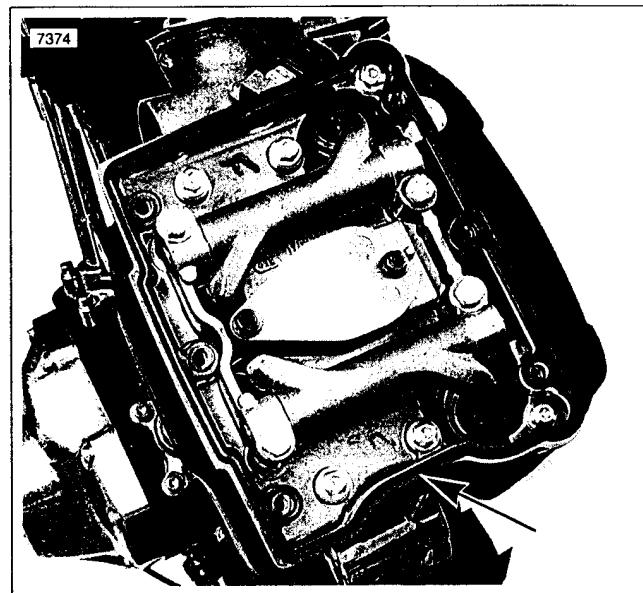

Figure 3-48. Rocker Cover Gasket Indent (Front Cylinder Shown)
- See Figure 3-48. Install a new rocker cover gasket with indent facing forward on the rocker housing flange. Place the rocker cover into position aligning the holes in the cover with those in the gasket.